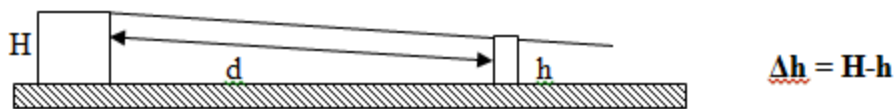

Figure 1. Slope showing the measured parameters needed to calculate the angle.
- How the data from Table 1 was analyzed including interpretation of the trendline in Figure 1 (Δx vs. t_{avg}^2 , why time was squared?)